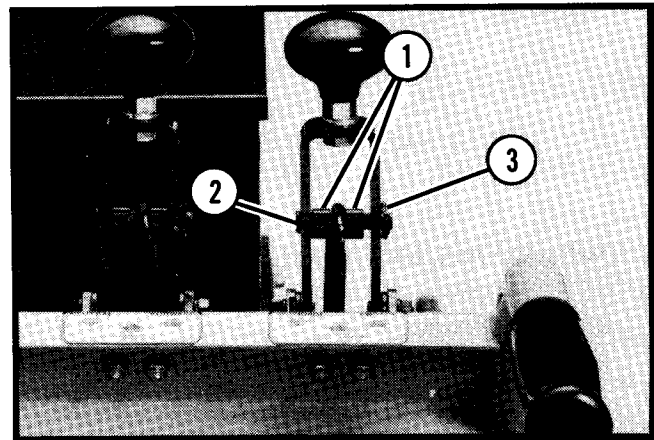

Figure 23. Reel Control Lever
14. Replace the cotter pin to secure the clevis pin in the lever (See Figure 23).